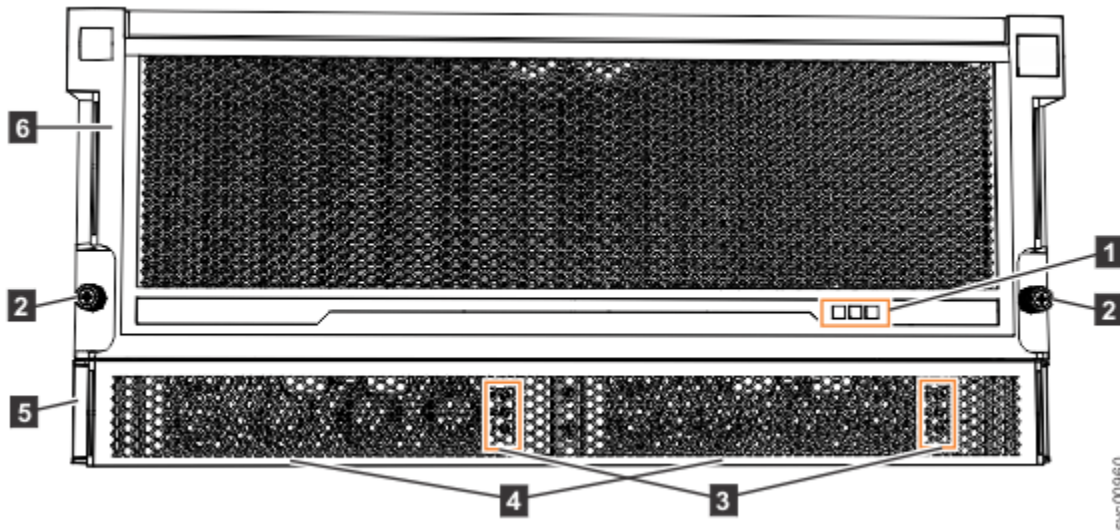
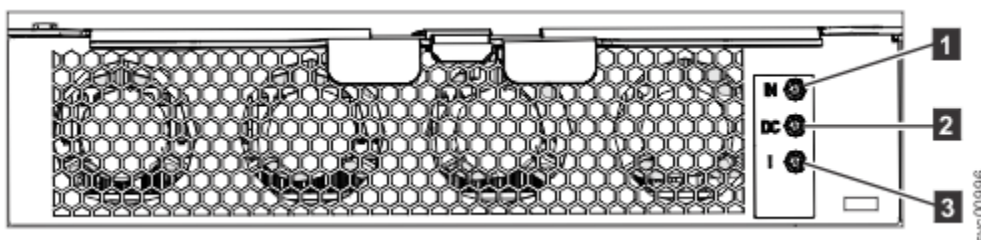

Figure 65. LEDs on the front of the expansion enclosure
Figure 66. LEDs on the front of a power supply unit
As Figure 65 on page 63 shows, the front of the 2077-92F, 2077-A9F expansion enclosure contains LEDs for the display panel (1) and for each of the power supply units (3).
The 2077-92F, 2077-A9F expansion enclosure contains two PSUs (4 in Figure 65 on page 63) that are accessible from the front of the enclosure. Each PSU has its own a set of LEDs, as shown in Figure 66 on page 64.